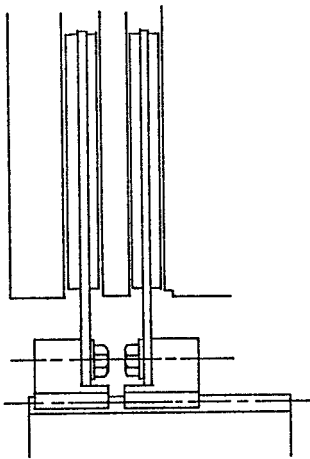

Figure 5
Refer to Figure 5 and note the proper orientation of friction discs (5) and ring gears (84). When properly installed, the heads of the screws attaching the friction discs to the ring gear must face each other.